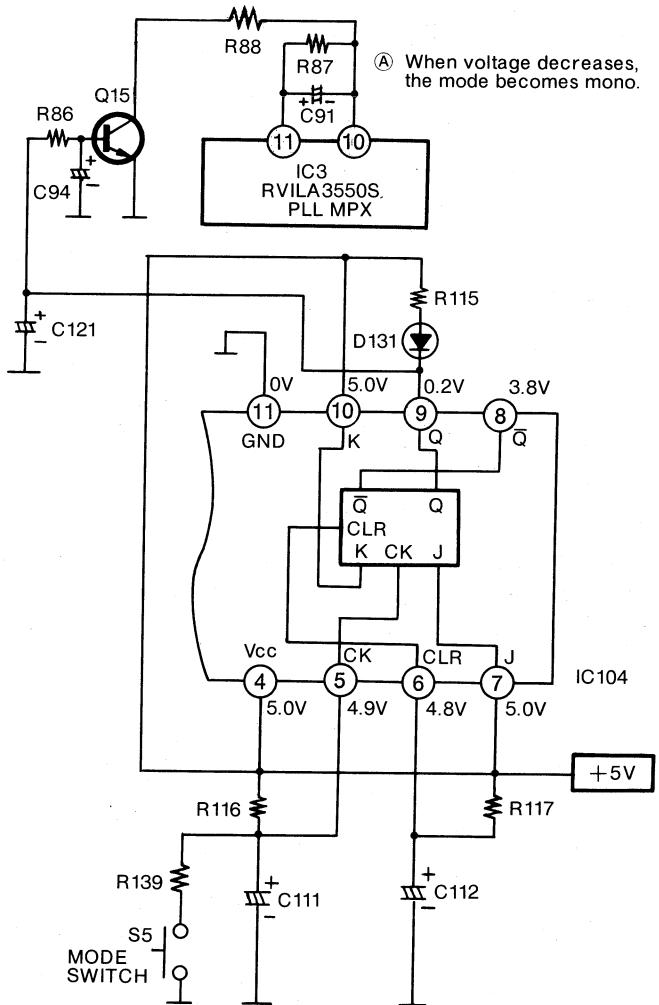

Fig. 12 Mode control circuit
1. When the mode switch (S5) is pressed, DC output Level (Q) of the J-K flip-flop (IC104) becomes Low, and switching transistor Q15 is in the OFF condition. At this time, the mode LED (D131) illuminates.
3. When in the FM auto mode, and (S5) is pressed once, DC output Level (Q) changes from Low to High level, and Q15 switches ON.
4. When Q15 switches ON, the electric potential of point (A) in figure 12 drops, and the FM reception signal is forced to become monaural (Refer to the operation explanation of the PLL FM decoder.), finally making the mode become monaural.